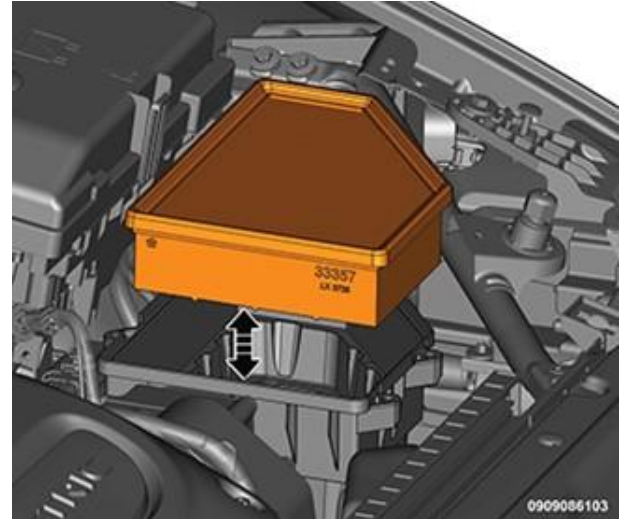

Figure 12 – Air Cleaner
20. Remove the air cleaner element (Figure 12).